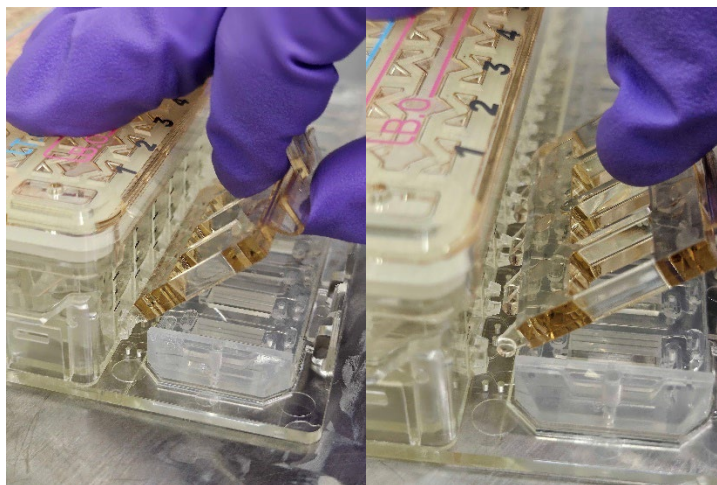

Figure 10. Connecting pipette or flow guide onto Chip-Array.
2. Once connected, gently snap the flow guides in place one at a time, using two fingers to hold onto the flow guide tab while pushing downwards, so that it interfaces with its respective Emulations. Users should hear an audible click when snapping the guide into place over its Emulations. See Figures 10 and 11 for visuals on connected guides and then snapping them into place